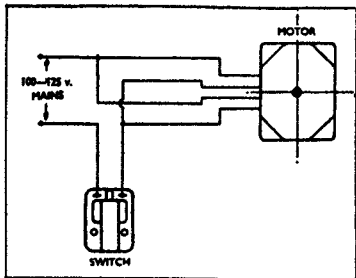

FIGURE 1.
I. Turntable does not rotate when On/Off/Reject Knob is turned to "ON"	(1) No current to motor	(a) Check that current has reached record changer motor. (b) Check that switch box assembly is functioning correctly.
(2) Motor defective	(c) Check all wiring and solder terminals to and from the switch box assembly (see Figure 1). (a) Remove the turntable and allow the motor to operate without load. If motor spindle is not rotating and voltage is reaching the motor, the motor is faulty. Repair or replace.